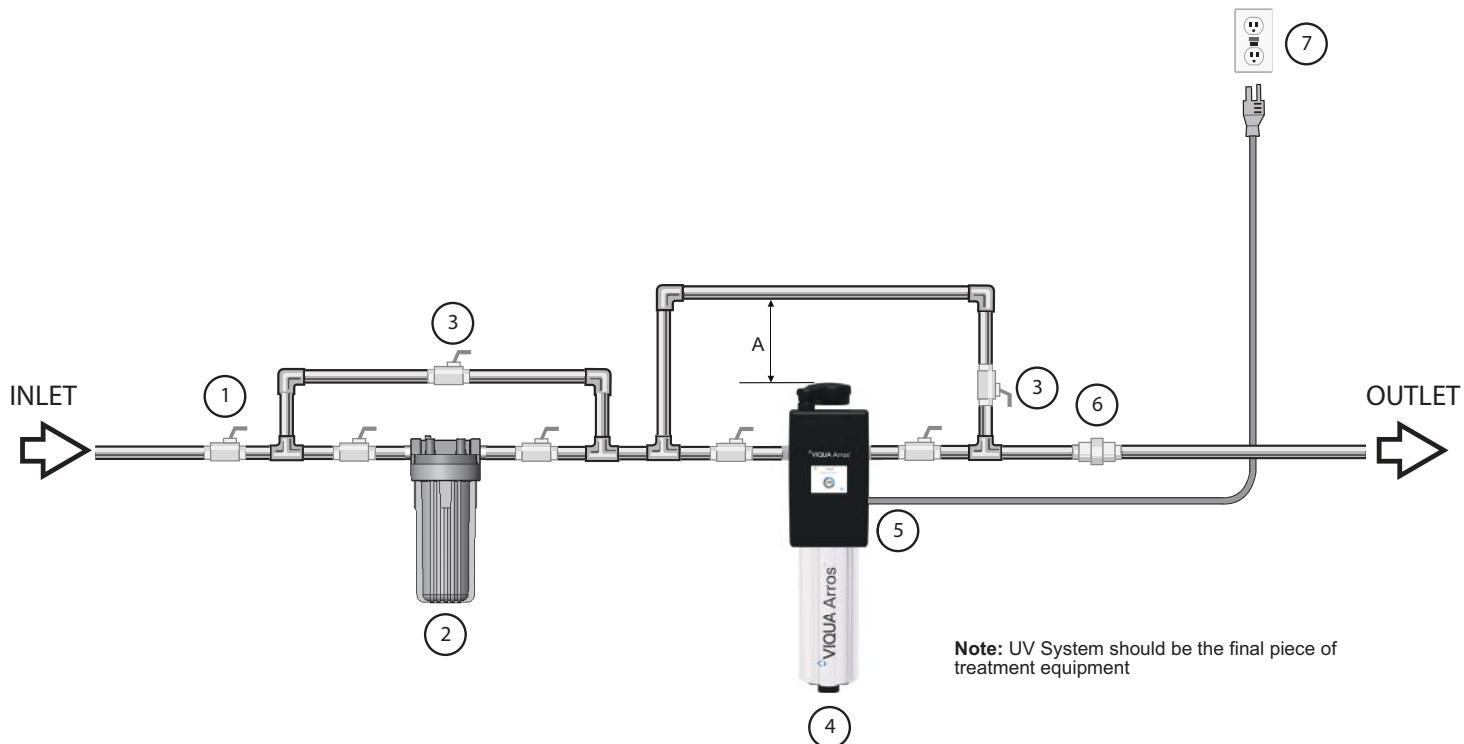

Figure 3 UV System
- Determine appropriate indoor location for the UV System. Refer to Figure 3.
- Make all necessary plumbing connections. Refer to Figure 3.
- Figure 3 shows the installation of a typical UV System and the related components that may be used for the installation. The use of a by-pass assembly is recommended in case the system requires "off-line" maintenance. In this case, note the system requires a supplementary disinfectant for the distribution system if any water is used during by-pass condition. In addition, during by-pass, the water will NOT be treated and a "DO NOT CONSUME THE WATER" tag should be physically installed on the by-pass assembly until such time as the system is sanitized and returned to service. For more information, refer to Section 3.2. If the water is to be consumed while the system is off-line, the water must be boiled for twenty minutes prior to consumption.